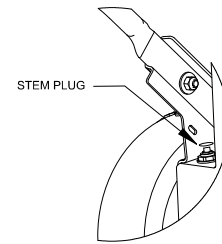

FIG.4
- 8)** Locate stem plug in rear of base unit on operators left. FIG. 4.